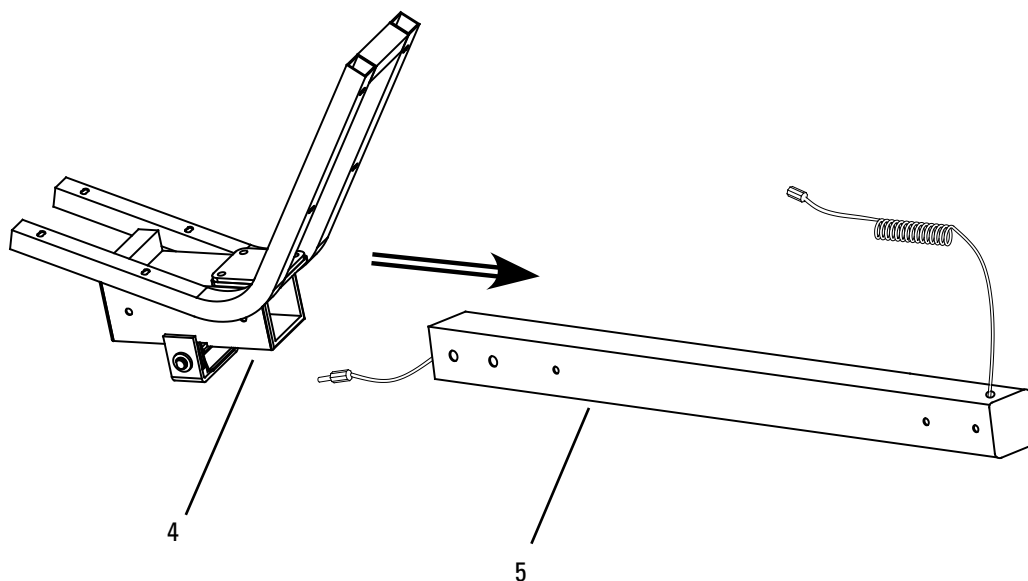

Figure 2
2-1: Slide Saddle Support Frame (4) onto Rail Tube (5) as shown in Figure 2. The wires from the Rail Tube pass through the Saddle Support Frame.